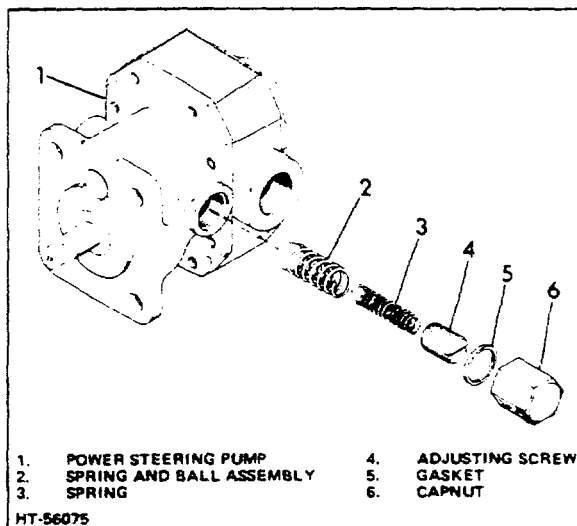

Figure 5-3. Power Steering Pump
6. To adjust pressure, remove cap nut (Fig 5-3) from adjusting screw in power steering pump. Turn adjusting screw IN to increase pressure or OUT to decrease it.